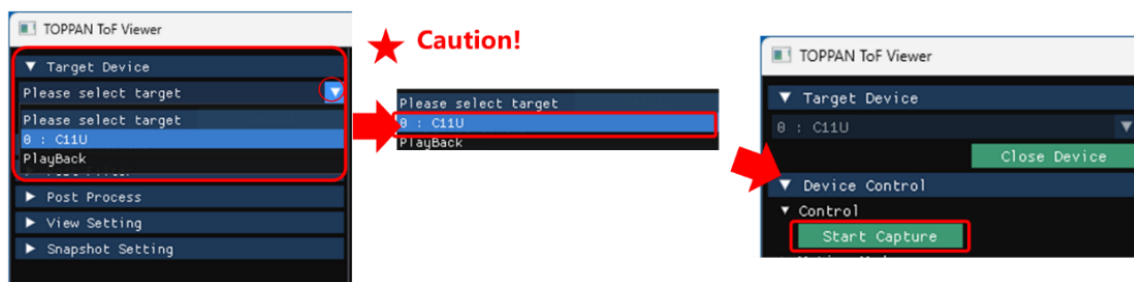

Figure 13. From Device Selection to "Start Capture"
Refer to *Figure 13*, start the TOPPAN ToF Viewer, and select "C11U" from "Target Device" in the left menu. If not listed, press "Reload" to check the connection. After selection, wait a moment, then press "Start Capture."
- When initial selecting a camera device after launching this application (See ★ in Figure 13), the VCSEL will emit light for approximately 3 seconds for internal camera calibration. Please do not look